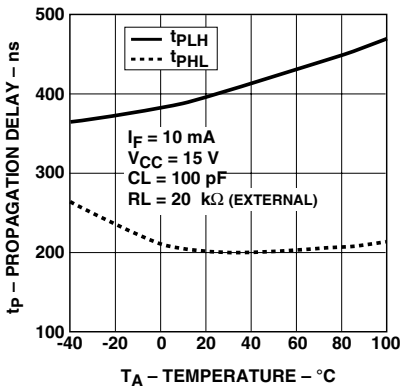

Figure 8. Propagation delay with external 20 kΩ RL vs. temperature.
- Due to tolerance of the internal resistor, and since propagation delay is dependent on the load resistor value, performance can be improved by using an external 20 k $\Omega$  1% load resistor. For more information on how propagation delay varies with load resistance, see Figure 8.